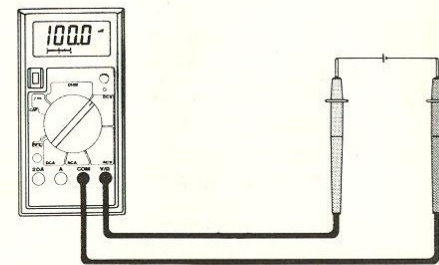

Fig. 5-2 DC Voltage Measurement
2. Set the function switch to the DC V range to be used and connect the test leads across the source or load under measurement. See Figure 5-2.